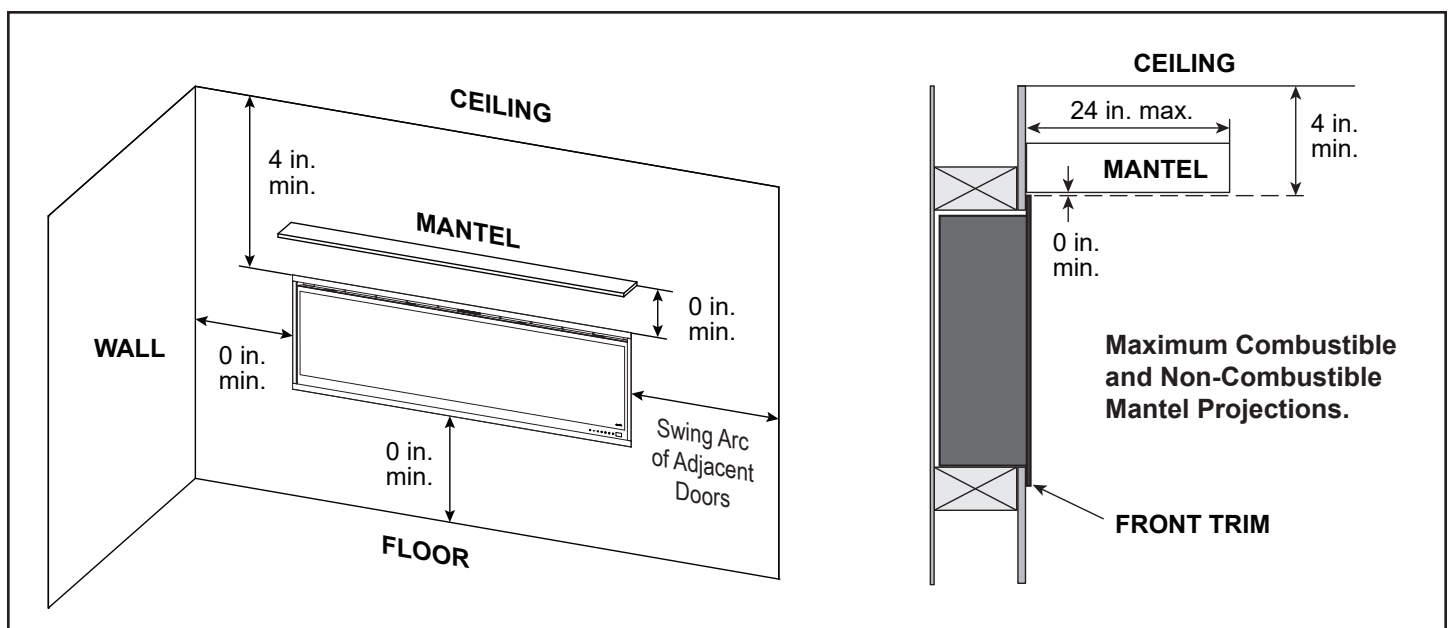

Figure 3.2 Location and Clearances Requirements
- See Figure 3.2 and 3.3 to determine location of appliance installation.
See Figure 3.2 for illustrated diagrams of the required clearance minimums.